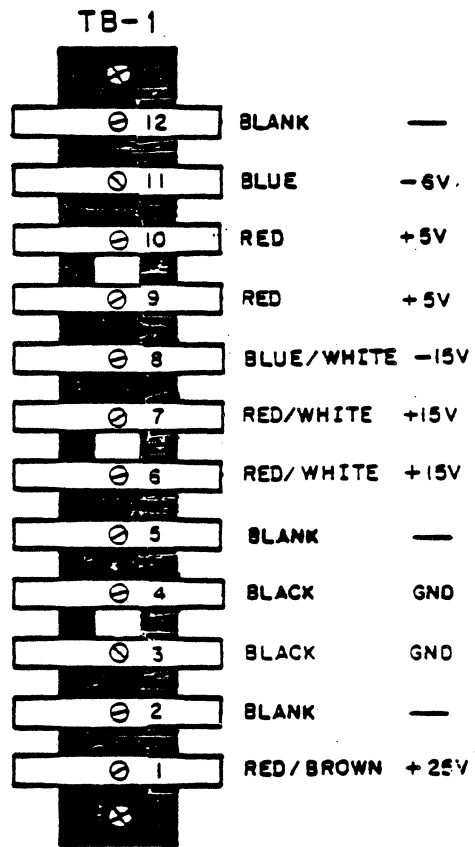

Figure 6-28. Power Terminal Strip TB-1
1. DC Voltage Checks - Using a digital voltmeter for all dc voltage measurements, connect ground lead of meter to pin 4 of power terminal block TB-1 (see figure 6-28). Connect other meter lead to points listed to test all DC voltages.